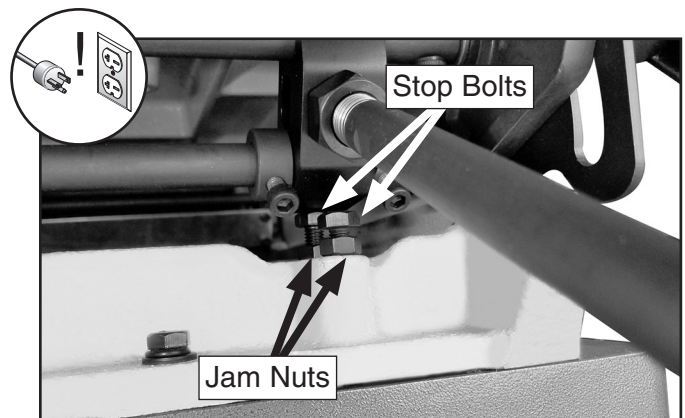

Figure 54. Location of outfeed table stop bolts and jam nuts.
4. Loosen outfeed table lock located at front of machine, and loosen jam nuts and positive stop bolts located at side of machine just below outfeed table (see **Figure 54**).